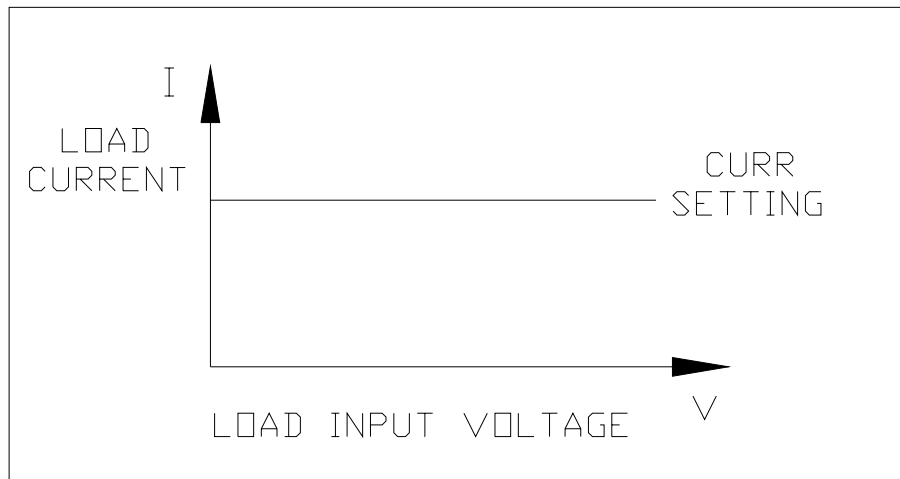

Figure 3-3 Constant Current Mode
In CC mode two operation functions (STATic, DYNAMic) can be selected. STATic function checks the stability of output voltage from a power supply. In some modules (single channel/module) there are two current levels (A or B) for static function. Both states A and B use the same range. You can select A (CCL1 or CCH1) or B (CCL2 or CCH2) through the **A/B** key on the module's keypad or Mainframe keypad when level1 (A) or level2 (B) changes. Slew rate determines the rate at which Load level changes from one load level state to another. Figure 3-3 shows current level of load module after pressing of **A/B** key.